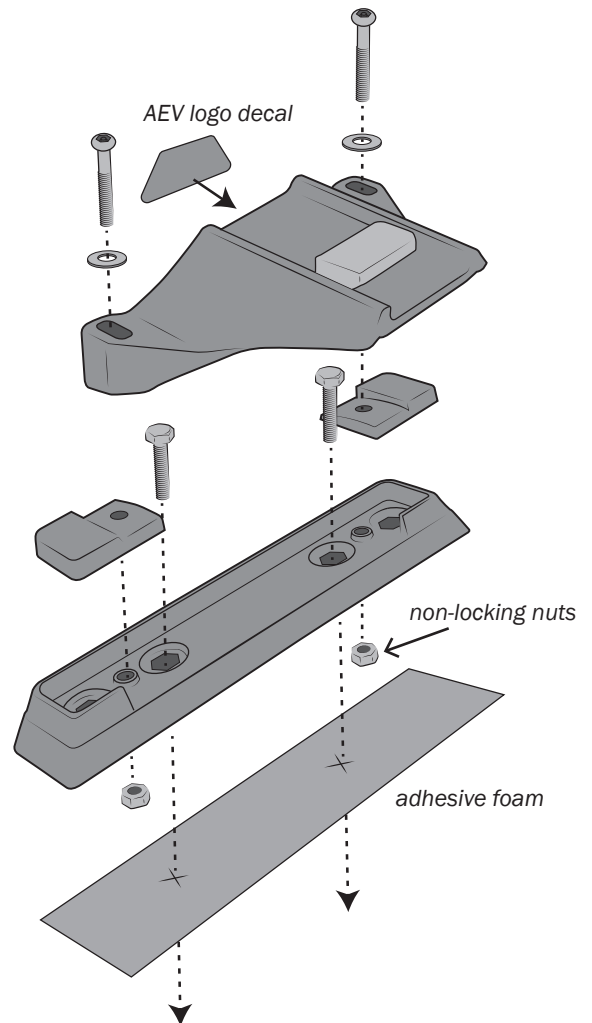

Figure 11
1. Pre-Assemble all four stantions as shown (fig. 11) leaving finger tight at this time. *NOTE: Additional hardware is included that is not required for this application.* Adhere the adhesive backed foam to the station foot, cut holes for the bolts to pass through, and trim tight to foot. Adhere the AEV Logo Decals to the stantions using the supplied alcohol swab to first clean the surface.